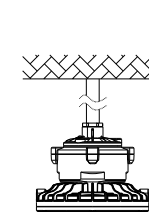
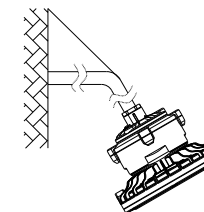
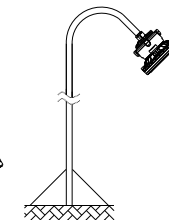

Figure 10
Figure 11
Figure 12
5. Fix the fixture in the required position (figure 10, figure 11, figure 12).